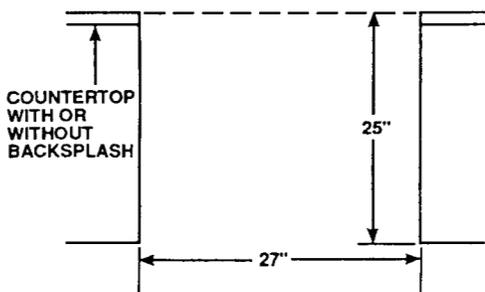
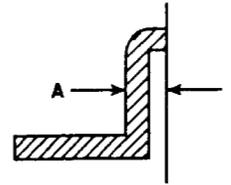

Fig. 3
FIG. 4
**NOTE: If the distance from the back wall to the front of the counter backsplash (Dimension A in Fig. 4) is greater than 1 1/8", there will be a small gap between the wall and the edge of the backguard. This is normal and should not be visually objectionable (See Figs. 3 & 4).**